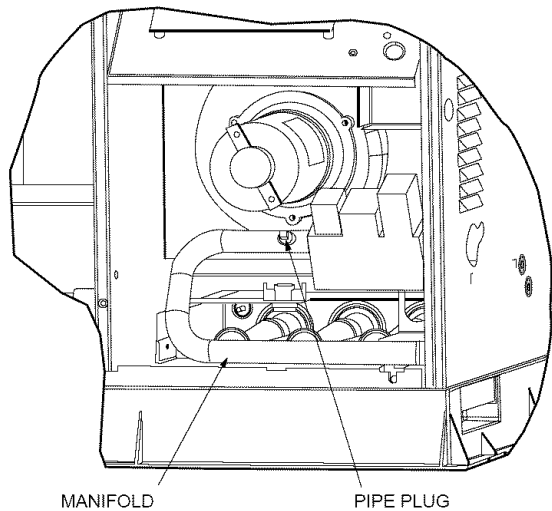

Fig. 18—Burner Assembly
1. Remove pipe plug on manifold (see Fig. 18) then connect manometer at this point. turn on gas to unit.
2. Remove pipe plug on manifold (see Fig. 18) then connect manometer at this point.